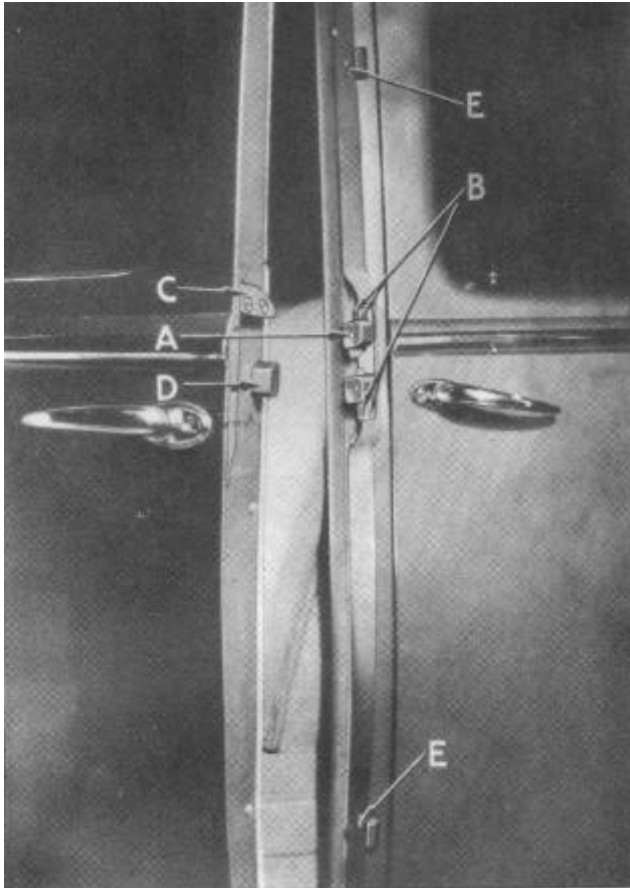
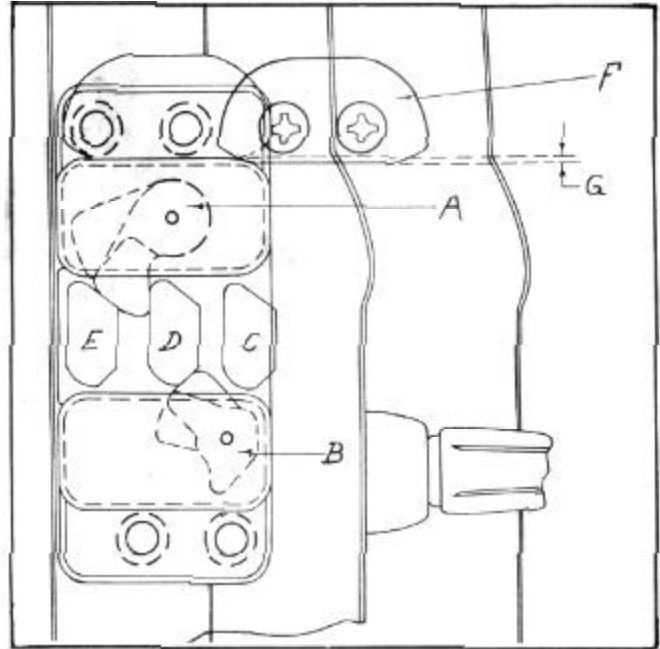

Figure 12--Door Striker Operation
Figure 13--Door Striker Operation
In the new lock the bolt (D), Figure 12, remains stationary (in the extended position) when the door is closed instead of being moved into the lock by the action of its beveled edge against the striker plate as formerly. This is accomplished by the use
of two pawls or latches which are pivoted in the upper and lower parts of the door striker assembly as shown in (A) and (B), Figure 13, and held outward by spring pressure. The lower pawl (B) which is located closer to the outside of the car acts as a safety catch similar to the first position on the old type striker plate. The upper pawl (A) is located toward the inside of the car and its wedging action against the bevel on bolt serves to keep Figure the door tightly closed. In 13, the bolt is
The complete striker assembly as a unit is attached to the pillar post by means of four screws (B), Figure 12, which enter into tapping plates, permitting of a considerable range of adjustment both up and down and sideways. In addition to housing the pawls or latches which control the closing of the door, the striker assembly also acts as one member of the dovetail since it carries the weight of the door through the dovetail (F), Figure 13, which is securely fastened to the door and is not adjustable.
1. Set door rubber bumpers (E), Figure 12, all the way in.
2. Adjust the striker assembly (A) on the pillar, in as far as it will go, and still permit the door to close and latch very easily.
3. When making above adjustment, be sure that the striker assembly (C) is set at such a height that the dovetail on the door will interfere by about 1/32". This will result in the door being lifted this amount as it is closed.
The second cautionary measure is to be sure that doors are not adjusted so that they have to be slammed hard in order to be latched. In this case it is not possible for the upper pawl to catch on the edge of the bolt and seat properly as shown in Figure 13.